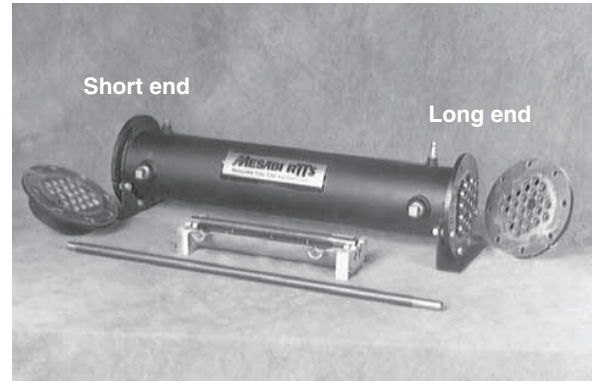

Fig. 1
3. To access the cooler tubes, remove the end cap and retainer plate from each end of the RTTS® Cooler. In many cases, the retainer plate is integral to the end cap (see Fig. 1).
NOTE: The RTTS® assembly has the letters "L" and "S" stamped on opposite ends of the shell. The "L" designates the end of the cooler that the long unfinned portion of the tube is located. The "S" designates the end of the cooler that the short unfinned portion of the tube is located (see Fig. 1).